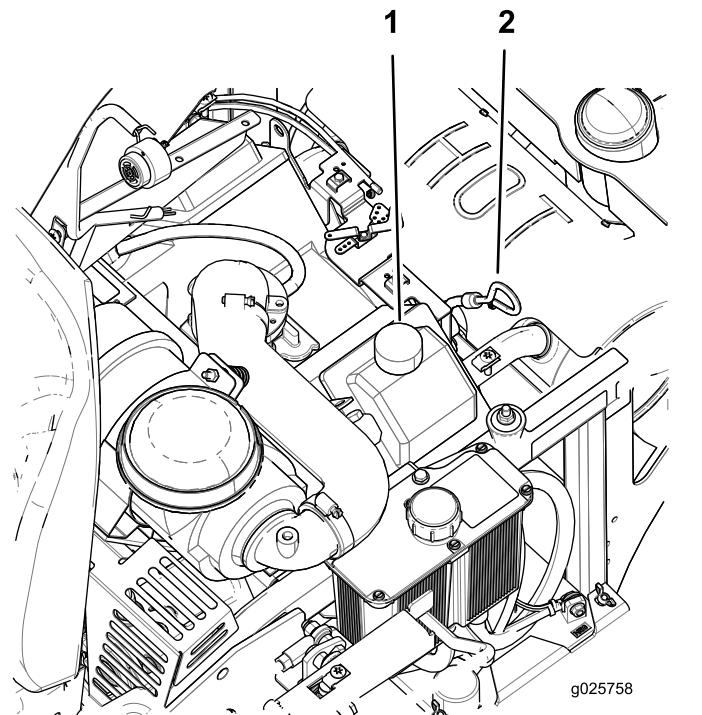

Figure 31
5. Clean the area around the dipstick (Figure 31).
9. If the oil level is low, wipe off the area around the oil-fill cap, remove cap and fill to the **full** mark on the dipstick (Figure 31).
4. Slowly pour approximately 80% of the specified oil into the filler tube and slowly add the additional oil to bring it to the **full** mark on the dipstick (Figure 31).
5. Start the engine and drive to a flat area. Wait 3 minutes for oil to settle into the crankcase. Check the oil level again (Figure 31).